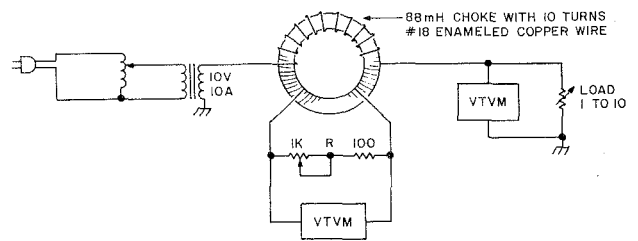

Fig. 2. Calibration test setup.
Fig. 2 shows the test setup used to calibrate the current transformer. It is not necessary to use the 120-volt, 60-Hz line to do the calibration. As shown, a low-voltage, high-current voltage transformer with an adjustable input is the quickest and safest.
1) Make sure that there are ten complete turns of #18 insulated wire wound as shown in Fig. 2.